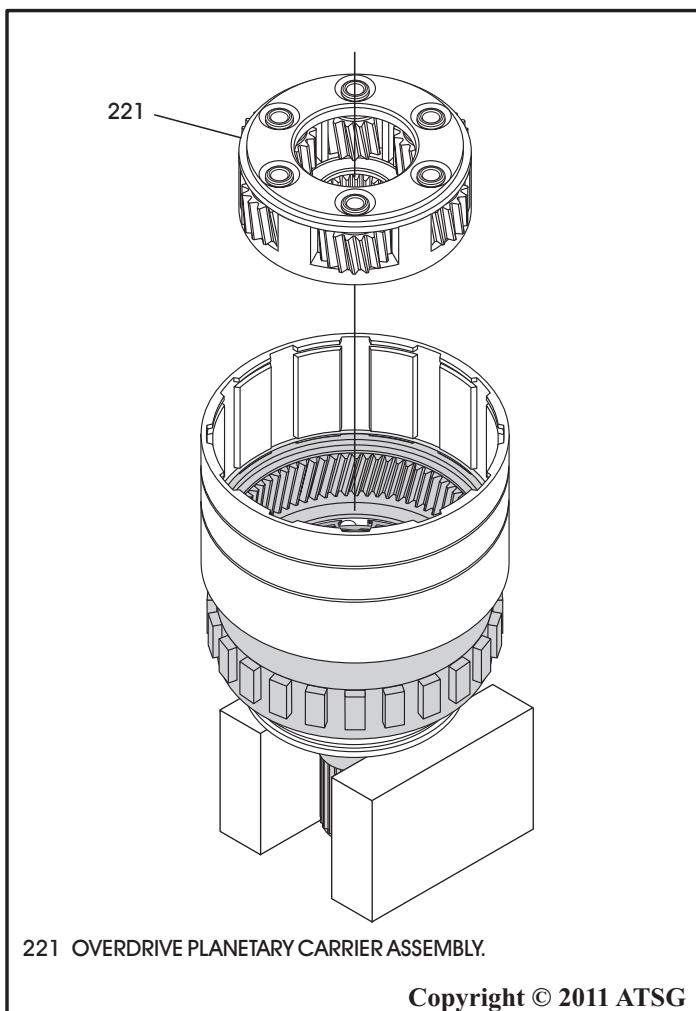

Figure 176
14. Install the overdrive planetary carrier into ring gear, as shown in Figure 176, with a twisting motion until fully seated.